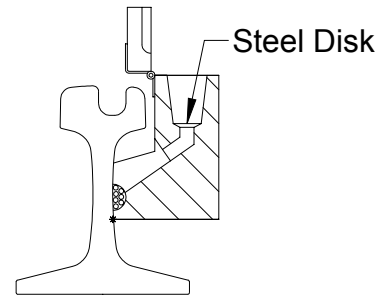

Figure 3
2. Insert one steel disk, dished (concave) side up, in crucible to cover tap hole. See Fig. 3.